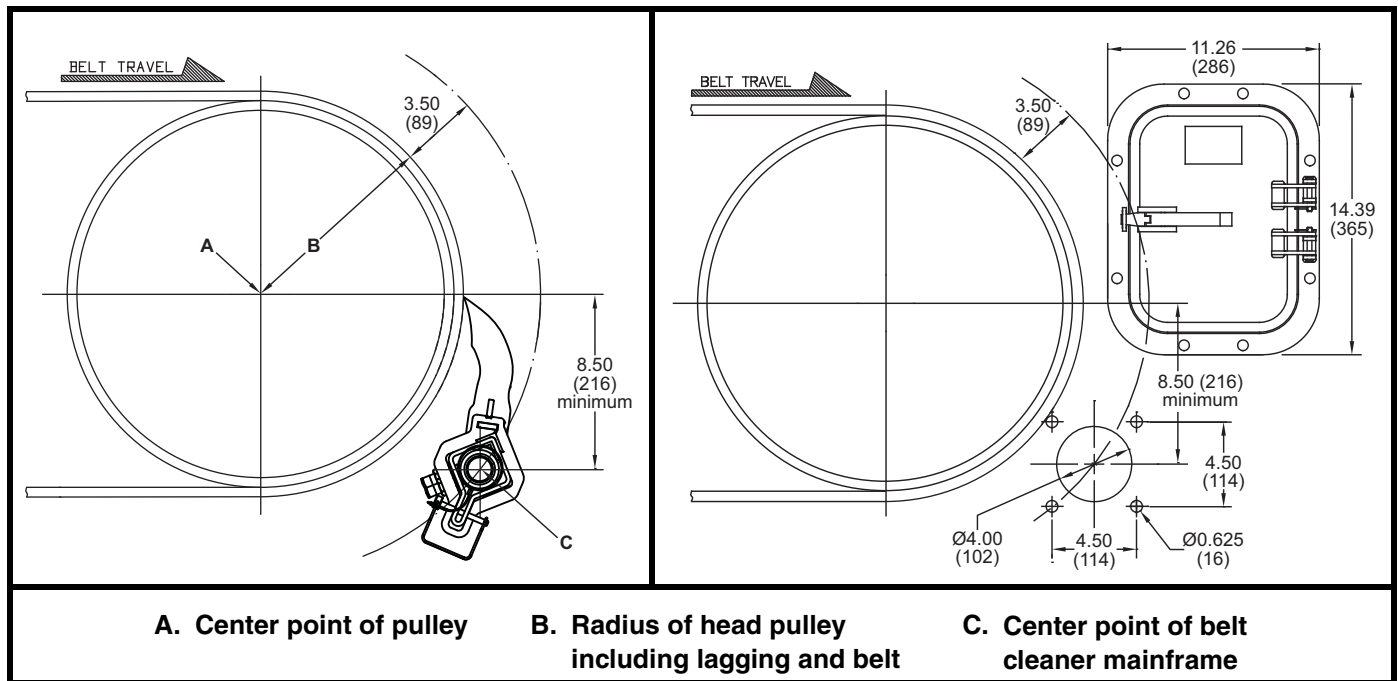

Figure 2. Belt Cleaner Mainframe Location & Chute Wall Cutouts
1. On operator side of chute, find pulley center point (A).
2. Measure radius of head pulley including lagging and belt thickness (B). To this dimension, add 3.50 in. (89 mm).
3. Starting from center point (A), measure the total distance calculated in step 2 (B + 3.50) and draw an arc on chute wall.
4. Measure down from pulley's horizontal centerline the distance shown in Figure 2 and draw a horizontal line parallel to it. Locate center point of belt cleaner mainframe (C) where this line intersects the arc on the chute wall.